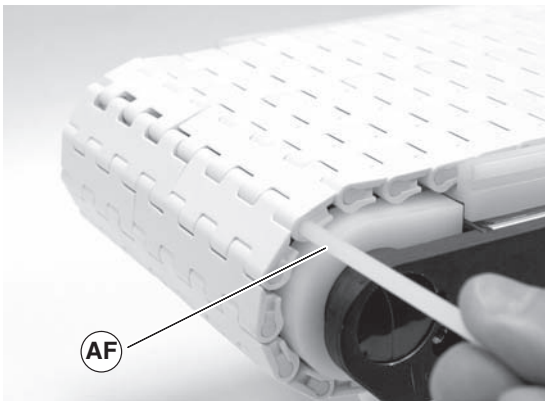

Figure 27
4. Splice the belt together by pushing the plastic rod (Figure 27, item AF) through the side hole.